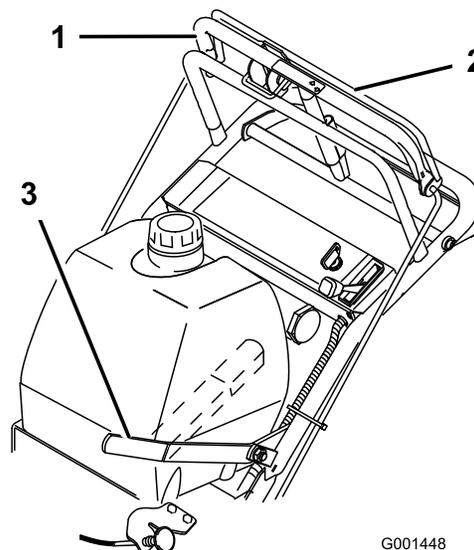

Figure 9
- To engage the blades, squeeze blade control bail against the upper control bar (Figure 9).
To disengage the blades, pull the blade control lever rearward all the way (Figure 9). The engine will kill